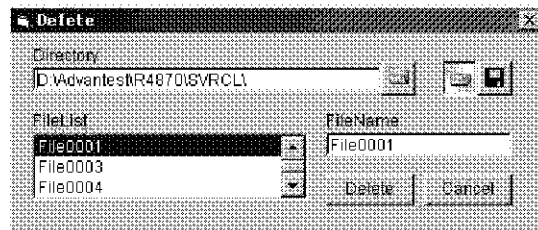

Figure 2-22 Delete Dialog Box
1. Select **File** in the main menu. Then, select **Delete...** in the drop down menu. The Delete dialog box is displayed (see Figure 2-22).